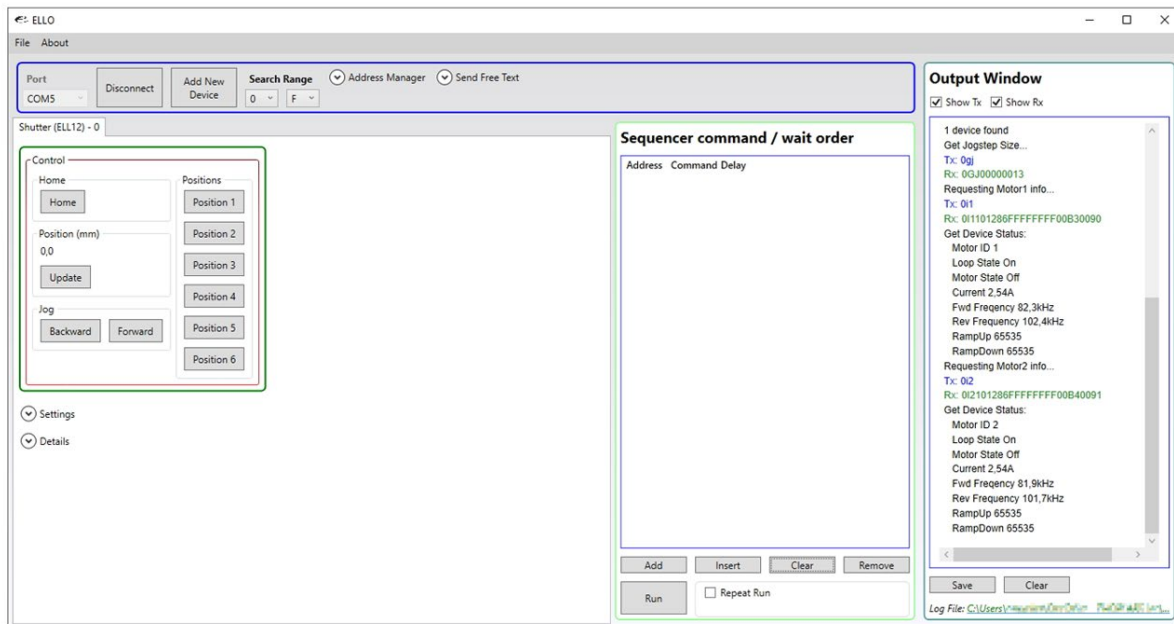

Figure 7 Main GUI Panel
8. The GUI and device are now ready for use. Click the position buttons to move to each position as shown in *Figure 7* (0 on the right-hand side of the slider through to 3 on the left-hand side).